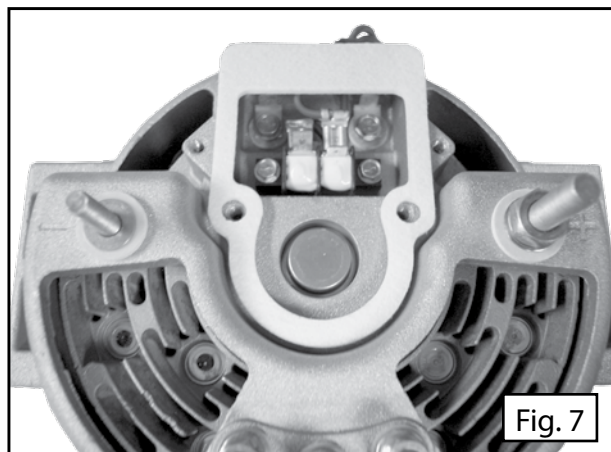

Fig. 7
Step 6: Place gasket furnished with kit onto alternator. (Fig.7)